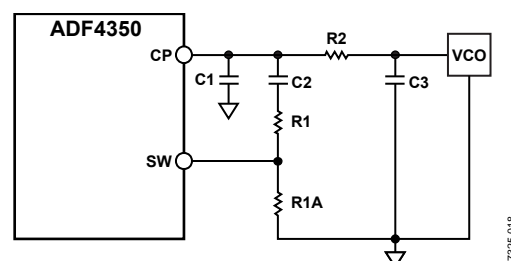

Figure 24. Fast-Lock Loop Filter Topology—Topology 1
- The damping resistor (R1) is divided into two values (R1 and R1A) that have a ratio of 1:3 (see Figure 24).